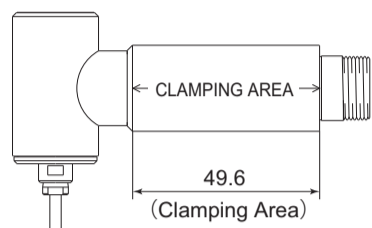

Fig. 5
- ① When mounting a spindle, refer to the Clamping Area etched on the spindle. (Fig. 5)